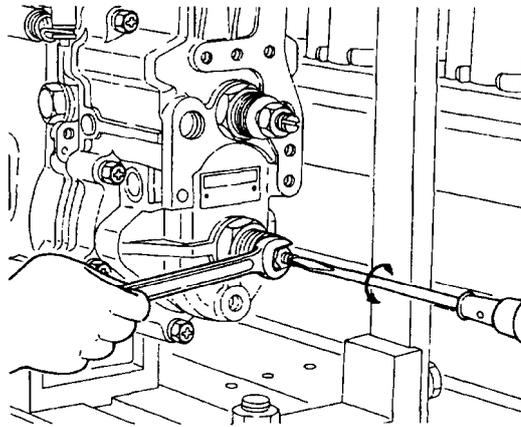

Figure 119 Inner Idling Spring Adjustment
- o. Set the pump speed to 240 , adjust the screw on the idling capsule (Figure 119) until the control rack is at 9.5 mm and tighten the locknut securely without moving the screw. The inner idling spring is now set.